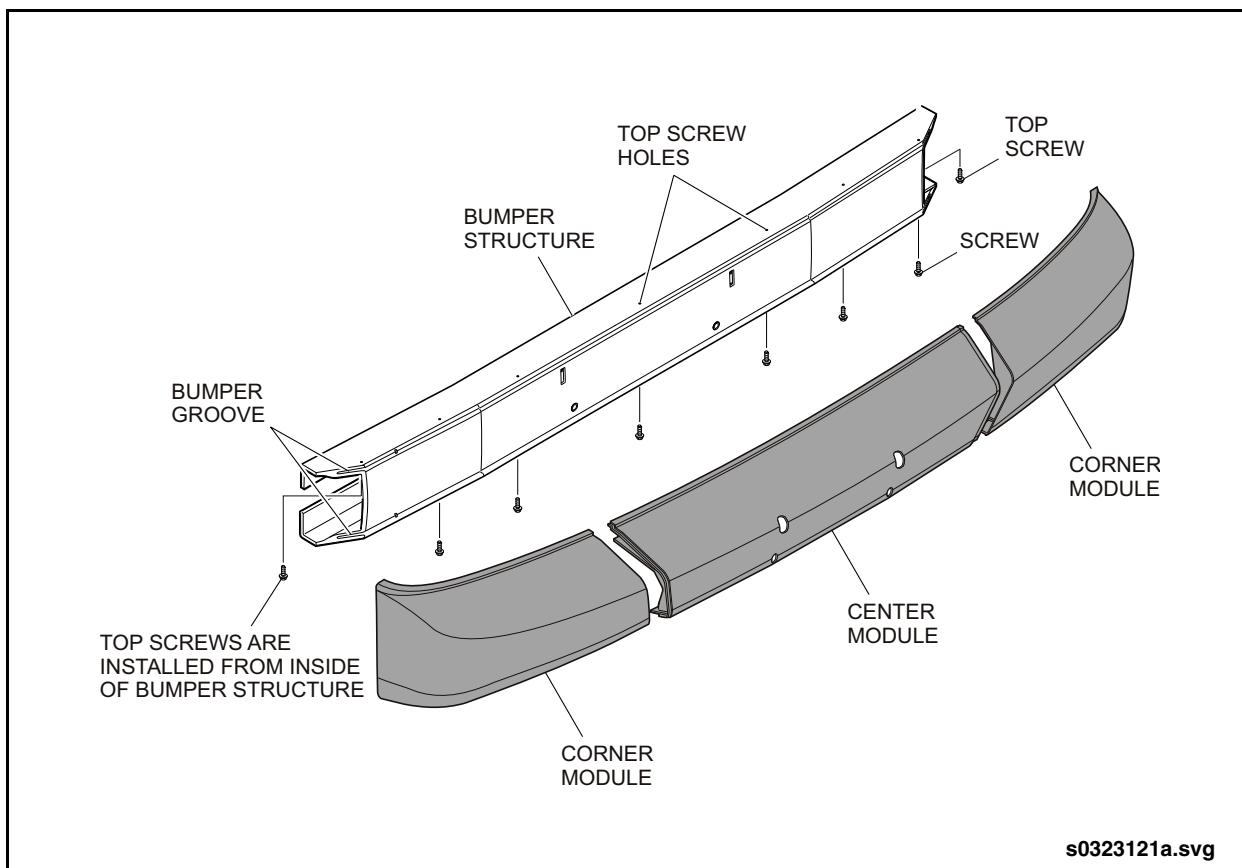

Fig. 13-10: Front Bumper Assembly
1. Remove the screws securing the rubber modules to the bumper back structure. The modules consist of a center module and two corner modules. See "Fig. 13-10: Front Bumper Assembly" on page 35.